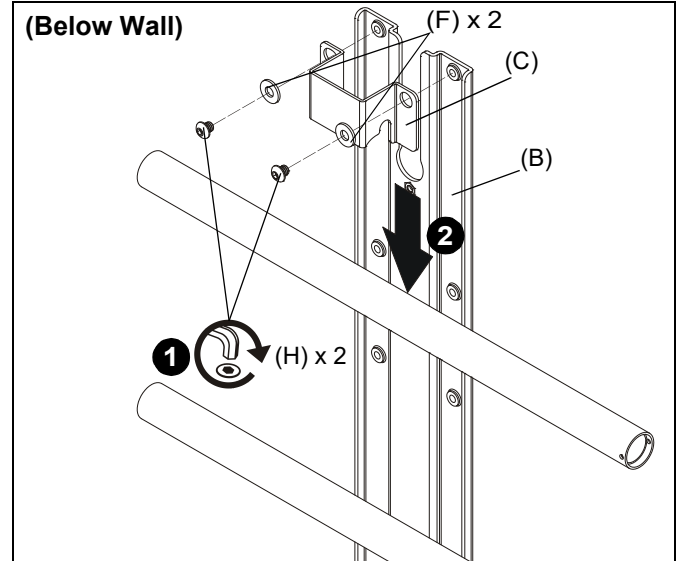

Figure 3
1. Use two 1/4-20 x 1/4" button head cap screws (H) and two large washers (F) to secure shelf bracket (C) to main bracket (B). (See Figure 3)
2. Slide main bracket (B) behind wall mount rails until shelf bracket (C) rests on top of wall mount rail. (See Figure 3)